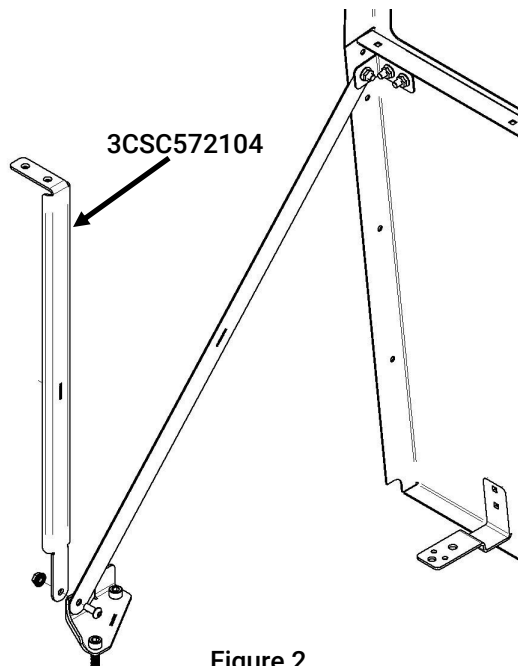

Figure 2
- A. Remove bolt and nut from the diagonal barrier support bar and attach CSC Center Support Bracket [3CSC572104] to the outside of the barrier floor bracket and re-install nut and bolt. (Figure 2)